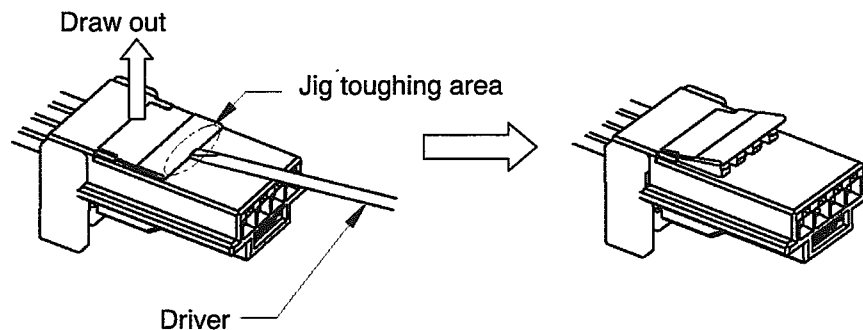

Fig.10
When the terminal requires insertion or extraction, the retainer must be in the pre-assembled condition. The insertion or extraction cannot be done in final lock condition. (See Fig.10, 11)
- (1) Tough the tip of precision screwdriver with 1mm blade onto the following area in Fig. 10.
- (2) Draw out the retainer as pre-assembled condition or opened condition.